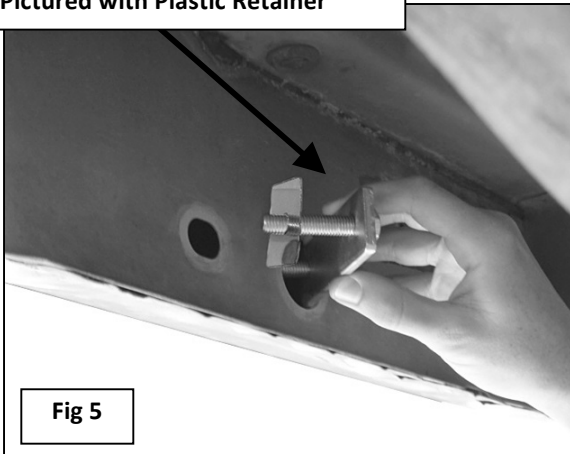
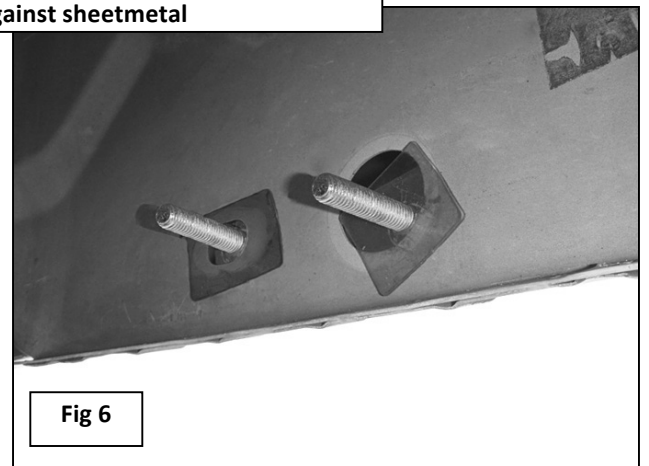

Fig 5
Fig 6
4. Align the Mounting Bracket with holes in the pinch weld. Attach the Mounting Bracket to the pinch weld using the included (2) 8mm x 25mm Hex Bolts, (4) 8mm Flat Washers, (2) 8mm Lock Washers and (2) 8mm Hex Nuts. **NOTE:** Insert Bolt with Flat Washer from the outside-in. Do not tighten hardware at this time.
**Note for 1997-98 3-Door models only:** The 3-door model uses the included (1) 10mm Narrow Bolt Plate for driver side rear Bolt Plate installation. Thread (1) 10mm Plastic Retainer partially
onto (1) threaded end on the Bolt Plate, (**Figure 5**). Insert the other end of the Bolt Plate, (without plastic retainer), into the large round hole and back out the smaller round hole on the inside of the rocker panel. Continue to thread the Plastic Retainer down the Bolt Plate until it is flush with the sheetmetal. Thread (1) Plastic Retainer onto the remaining threaded end on the Bolt Plate, (**Figure 6**). **IMPORTANT:** The Plastic Retainer is designed to prevent the Bolt Plate from falling into the body cavity and to aid in mounting the Bracket.